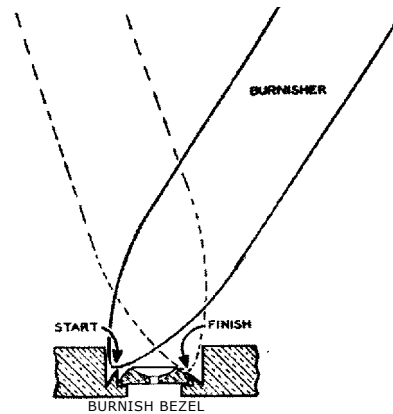

FIG. 12-20
11. It is good practice to run a burnisher around edge of bezel (figure 12-20).
8. Place train jewel in seat (figure 12-20).
9. Figure 12-20 illustrates a hard steel burnisher used to force bezel over jewel. The solid lines of burnisher illustrate the bezel at the start and the dotted lines illustrate the burnisher and the bezel which is now tight against the jewel. In ordering a new jewel for the type of seat described in this section, it is best to send in the plate with the bezel opened together with the wheel and pinion for which it is intended. In this way a jewel of correct diameter to fit both the seat and the pivot can be furnished.